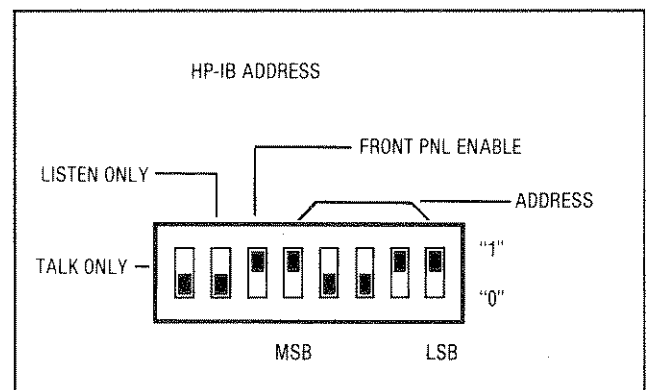

Figure 2-3. HP-IB Address Switch Shown as Set by the Factory
e. Set the switches to the desired HP-IB address (in binary) or the Talk Only or Listen Only setting. The switch is illustrated in Figure 2-3. If both the Talk Only and the Listen Only switches are set to "1", the Talk Only setting overrides the Listen Only setting. Setting the address switch to Talk Only or Listen Only selects a unique HP-IB address; Talk Only = 50, Listen Only = 40. Talk Only and Listen Only are used when the Signal Generator is in a master/slave configuration. See the Detailed Operating Instructions in Section III for more information.